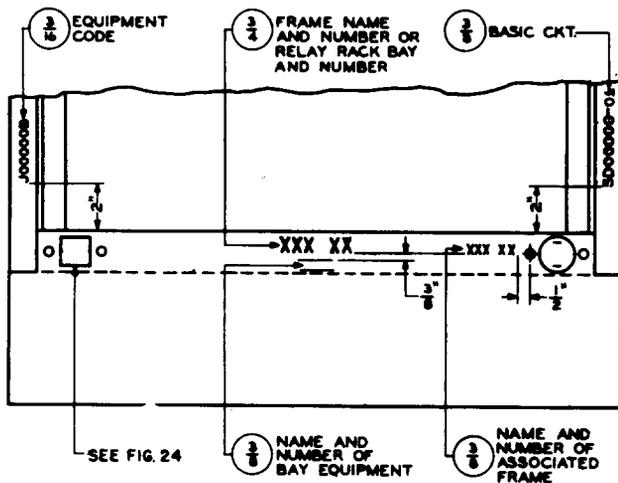

Fig. 8 - Front View of Single-bay, Box-type Frame Base
- (a) On single-bay frames stamp, when required, on the face of the right upright, as shown in Fig. 8.
2.17 *The J-code numbers on single-bay and double-bay frames* shall be stamped on the face of the left upright, as shown in in Fig. 8 and 11.
- (a) Centered *on the front* slanted face of the frame base, as shown in Fig. 8.
- (a) Centered *on the front* slanted face of the frame base below the frame name and number, as shown in Fig. 8.
2.26 The name and number of an associated frame on single-bay frames, when required, shall be stamped on the right side of the front slanted face of the frame base, as shown in Fig. 8.